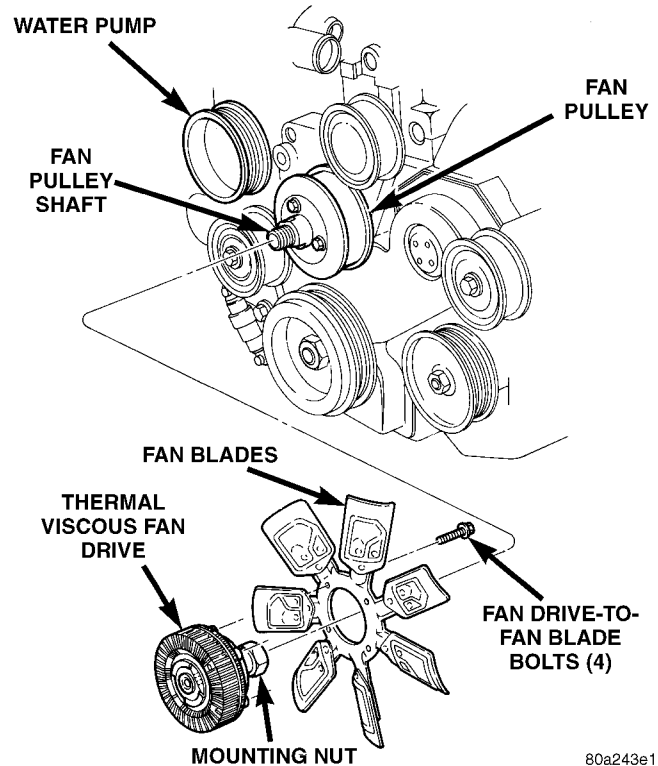

Fig. 16 Thermal Viscous Fan Drive and Blade Assembly
- (1) Disconnect negative battery cable from battery.
- (2) The thermal viscous fan drive/fan blade assembly is attached (threaded) to the fan pulley shaft (Fig. 16). Remove fan blade/viscous fan drive assembly from fan pulley by turning mounting nut counter-clockwise as
- (8) Remove four bolts securing fan blade assembly to viscous fan drive (Fig. 16).
- (1) Install fan blade assembly to viscous fan drive. Tighten bolts (Fig. 16) to 23 N·m (200 in. lbs.) torque.
(2) Position fan shroud and fan blade/viscous fan drive assembly to vehicle as a complete unit.
(3) Install and tighten fan shroud bolts to 3 N·m (31 in. lbs.) torque.
(4) Install fan blade/viscous fan drive assembly to fan pulley shaft (Fig. 16).
(5) Connect negative battery cable.